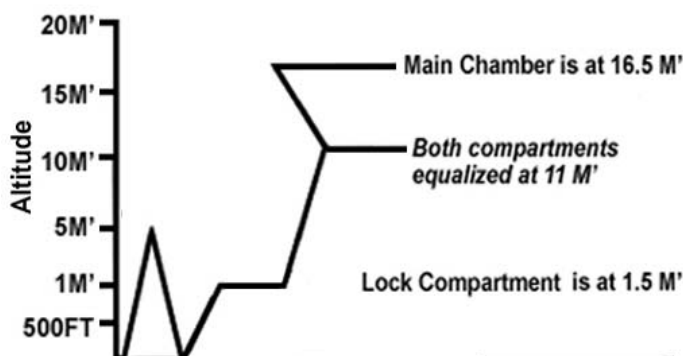

Figure 3-1. Type 1 chamber flight, rapid decompression.
This flight, also called rapid decompression (RD) flight (fig. 3-1), is designed to give the trainee practical experience in applying the principles and techniques learned in the classroom used for an accidental loss of cabin pressurization. In figure 3-1 you will see the RD as it is conducted at Brooks City-Base, Texas. RD flights should not exceed 15 minutes. Additional objectives include the following: